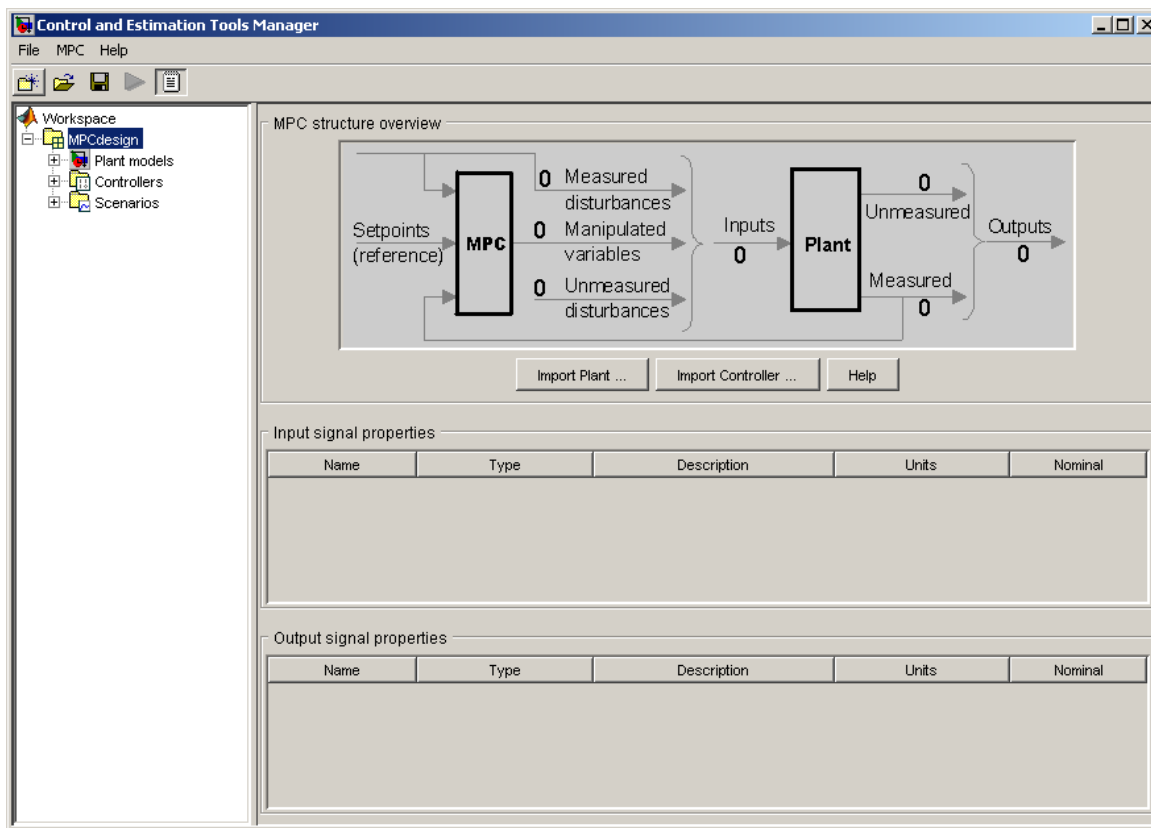
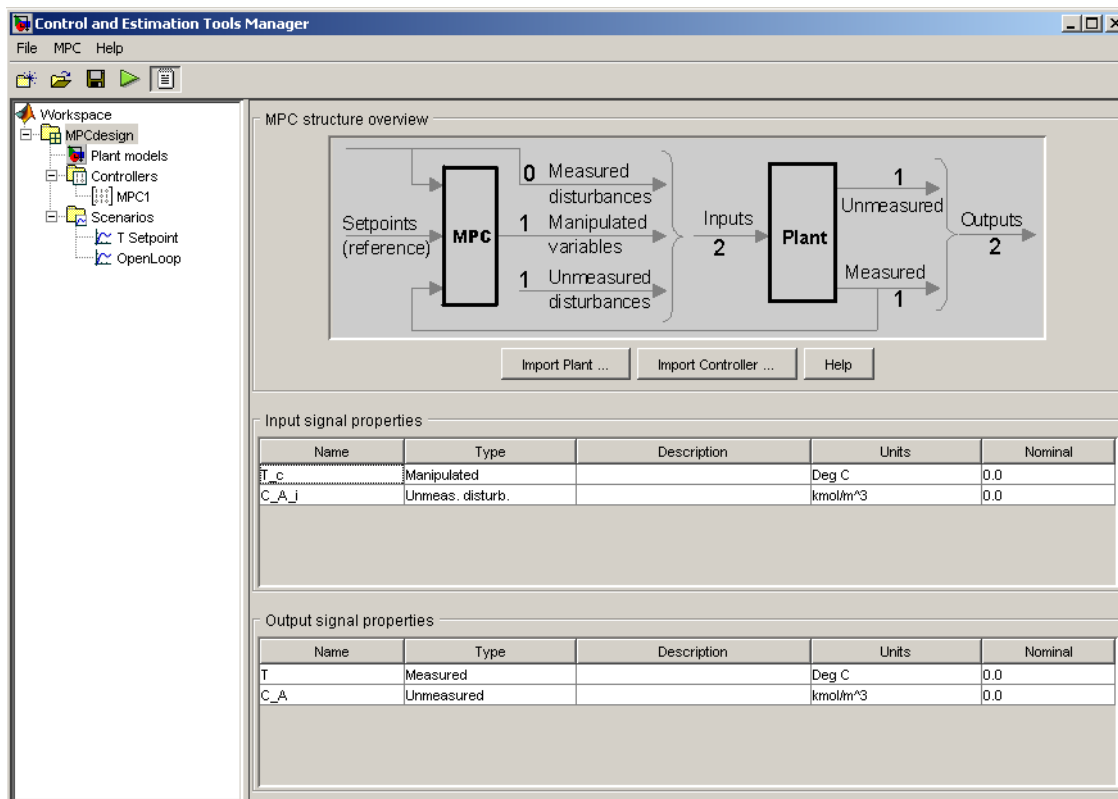

Figure 3-1: Model Predictive Control Toolbox Design Tool Initial View
Figure 3-3: The Model Predictive Control Toolbox Design Tool's Signal Definition View
Click the **Import Plant** button in the design tool’s initial view (see Figure 3-1). The **Plant Model Importer** dialog appears.
Click the **Import** button. This loads CSTR into the design tool. Then click the **Close** button (otherwise the dialog remains visible in case you want to import another model). The design tool should appear as in Figure 3-3.
- The **Description** and **Unit** entries are optional. You can enter the values shown in Figure 3-3 manually. As you will see, the design tool uses them to label plots and other tables.
The *tree* in the left-hand frame of Figure 3-3 shows that the default **MPCdesign** node (see Figure 3-1) has been renamed **CSTRcontrol** by clicking on the name, waiting for the usual edit box to appear, typing the new name, and pressing **Enter** to finalize the choice.
Figure 3-3 also shows three new nodes below **CSTRcontrol**. These activate once you've imported a plant model (or controller).
For example, clicking the *project* node (**CSTRcontrol** in Figure 3-3) allows you to review and edit the signal properties tables.
The C_{A_i} input's nominal value is 0.0 (see Figure 3-3), so the above models a sudden increase to 1 at the beginning of the simulation. The following is an equivalent setup using the Step type.